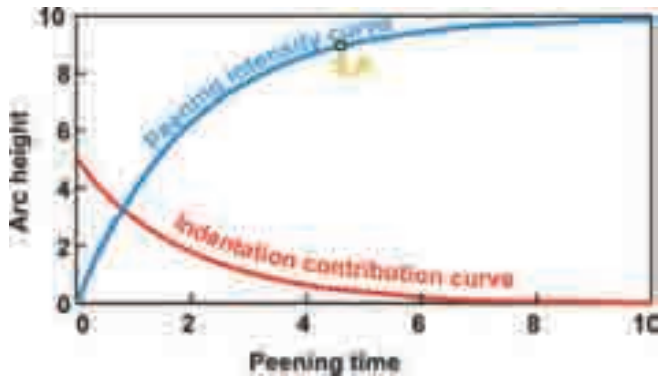

Fig.5. Two-parameter exponential peening intensity curve with corresponding indentation contribution curve and saturation point, S.P.
Equation (5) is an ‘indentation contribution curve’. That is to say it shows how the contribution, δh , of individual indentations changes with peening time. Fig.5 shows a peening intensity curve based on equation (4), together with the corresponding indentation contribution curve given by equation (5). It is clear that the contribution to arc height by successive impacts falls rapidly to a very small value.